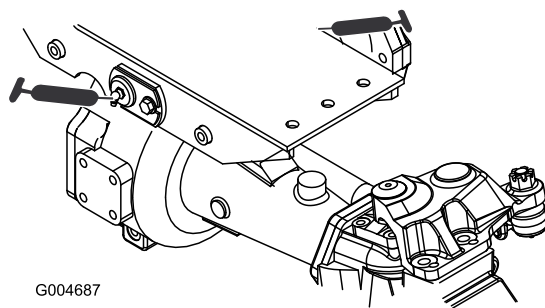

Figure 37
- 2 front and rear-axle-pivot bushings (Figure 37)